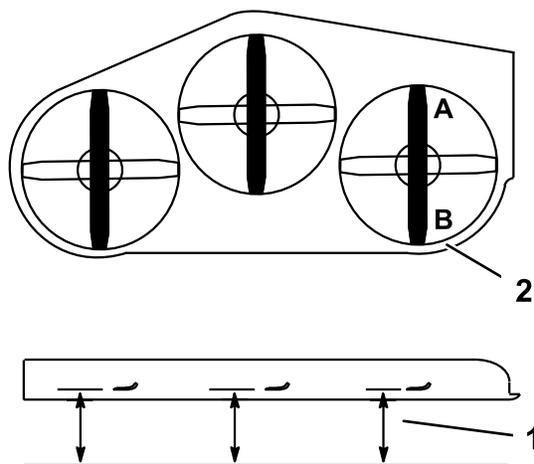

Figure 96
2. Position 1 blade front-to-rear. Measure at **A** and **B** locations from a level surface to the cutting edge of the blade tips (Figure 96).